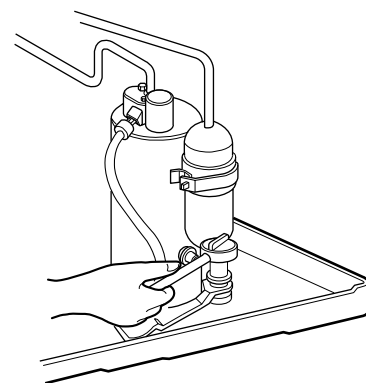

Figure 26
6. Remove the compressor. (See Figure 26)